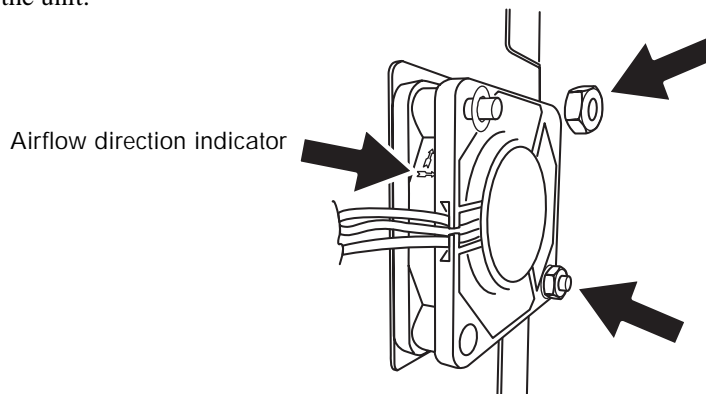

Figure 10.2.1d Fan replacement
2. Ensuring correct orientation (figure 10.2.1d) fit the new fan over the studs, and secure using the fixings removed in step 1. Ensure that the flow direction indicator arrow is pointing towards the inside of the instrument.